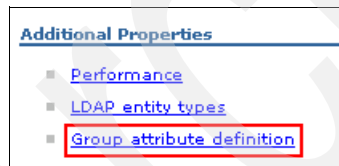

Figure A-75 Selecting Group attribute definition for WebSphere Process Server
21. Under Additional Properties, select **Group attribute definition** (Figure A-75).